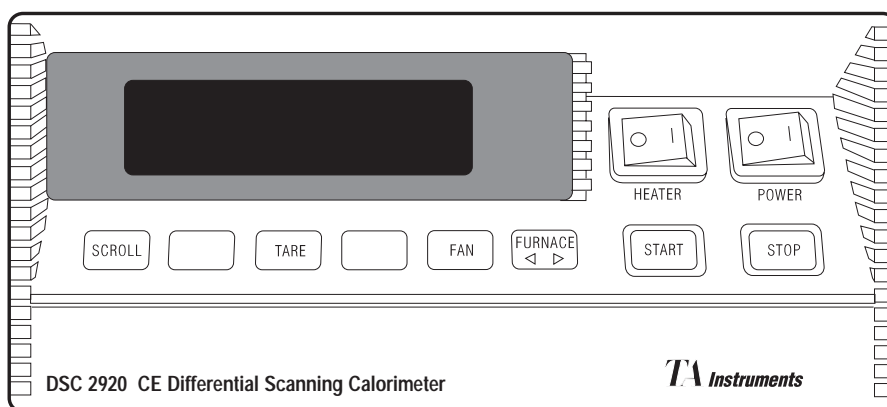

Figure 2.8
1. Make sure the DSC 2920 CE POWER switch (see Figure 2.8) is in the OFF (0) position.